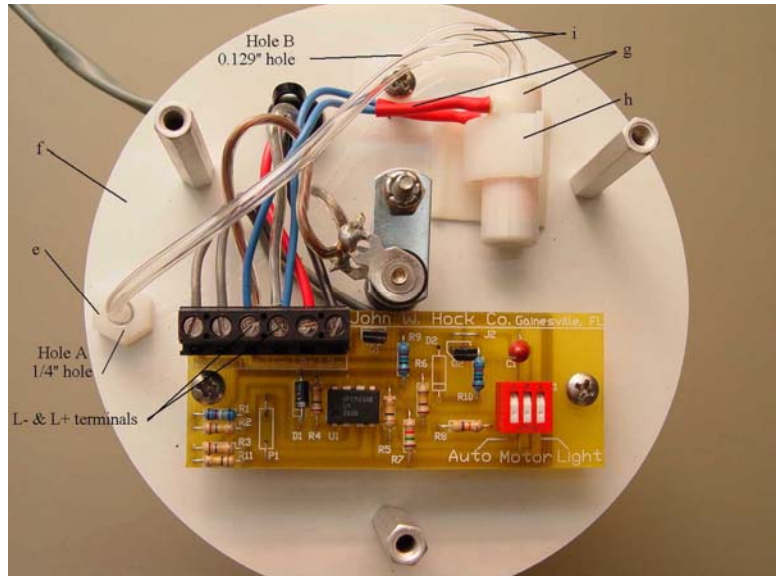

Figure 1. Top view of plate
### Parts included in the CO2 retrofit (see Figure 1)
2. Drill and then tap with an 8-32 tap a hole in the acrylic body of the trap at the location shown in figure 1. This tapped hole should be directly under hole **B** and below the support screw connecting the body of the trap with the white aluminum plate as seen in figure C. Screw in the 90°-angle fitting with the 1/16" barb for the tubing pointing up.